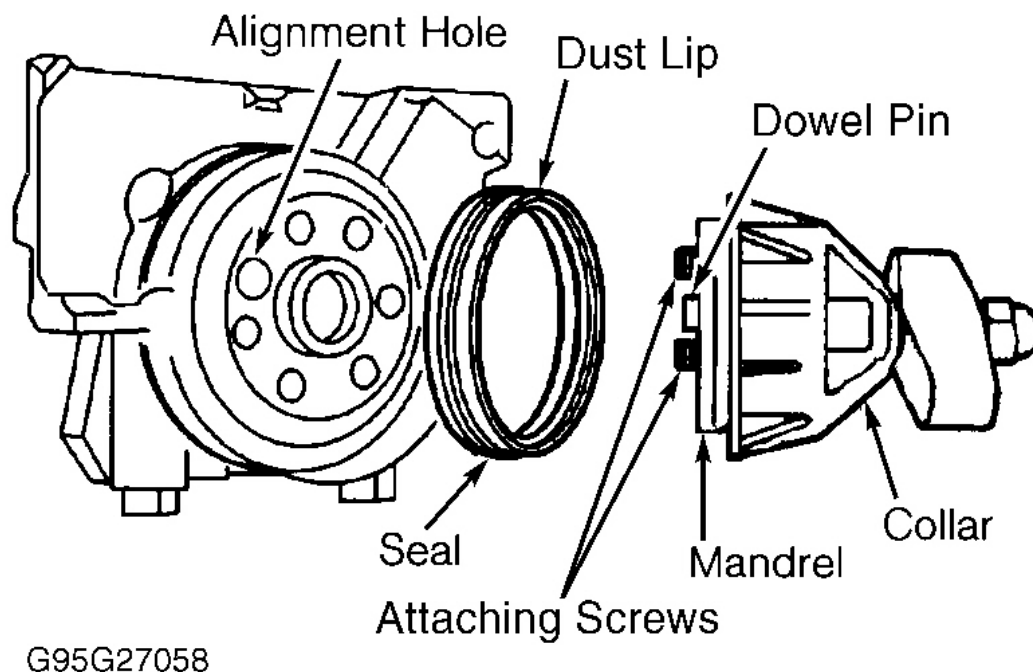

Fig. 8: Installing Rear Crankshaft Seal
1. Coat inner and outer seal surfaces with engine oil. Install seal on mandrel of Seal Installer (J-34686) until dust lip bottoms against tool collar. See **Fig. 8** . Align seal installer dowel pin with alignment hole of crankshaft. Install seal installer on crankshaft.